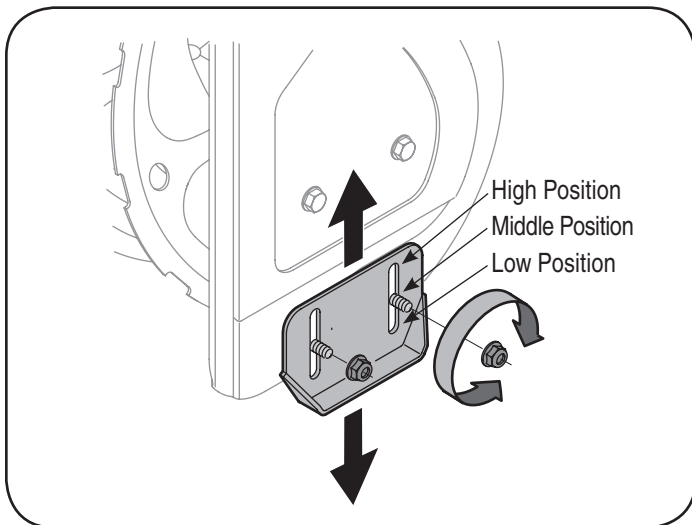
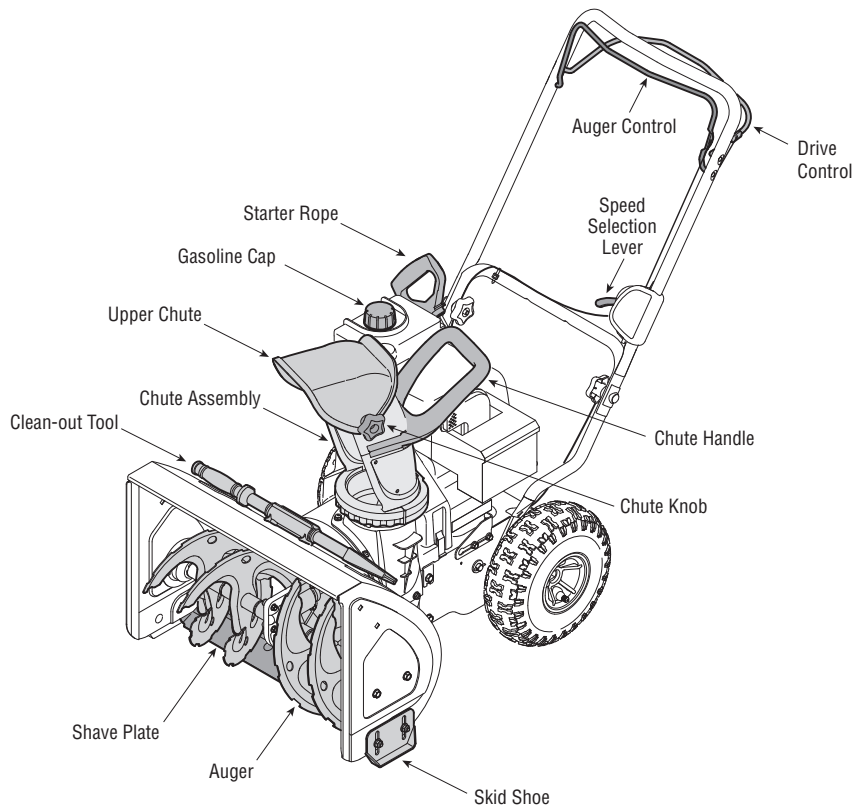

Figure 5
Figure 6
The space between the shave plate and the ground can be adjusted. Refer to Figure 6 on page 8 for location of shave plate and skid shoes. For close snow removal, place skid shoes in low position. When area to be cleared is uneven, place skid shoes in the middle or high position. See Figure 5.
1. Adjust skid shoes by loosening two nuts and carriage bolts on each skid shoe, and moving skid shoe to the desired position. See Figure 5.
**NOTE:** Compare Figures 6 & 7 with your equipment and follow description of controls, given below, to become familiar with their operation.